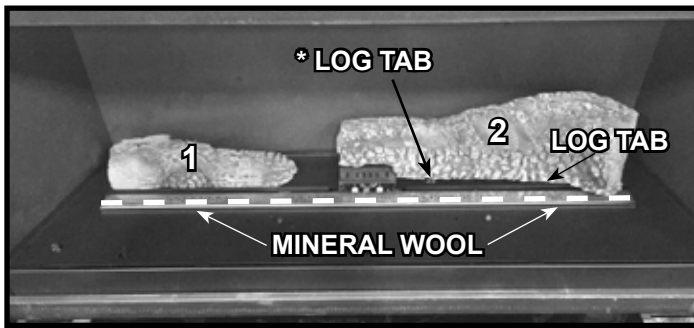

Figure 5. Place Log #2 - Mineral Wool Placement
- COSMO42-IFT/COSMO42-IFT-B: Install Log #2 by placing the cutout on the left side of the log over pilot shield and pull log forward until it contacts the two log tabs. See Figure 5.
- Install mineral wool on burner. Mineral wool can be placed the entire length of the burner, but it must only be placed between the front row of ports and the space in front of the burner. The mineral wool should not cover any ports or fall so that it covers the gap behind of the burner. See Figure 5.